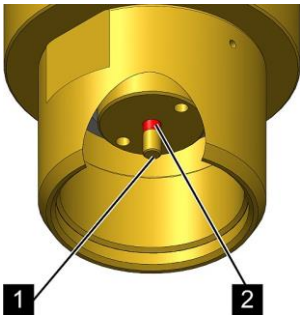

Fig. 88: Release pin
During test releases, do not reach into the area around the release pin (Fig. 88/1).
8. ➤ Check whether the red marking (Fig. 88/2) is visible on the release pin (Fig. 88/1).